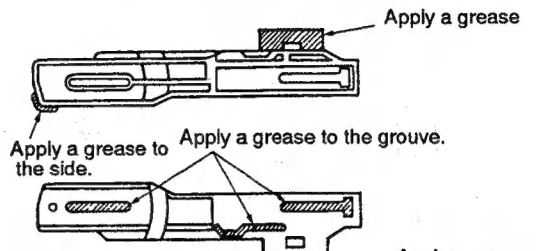

Fig. 12
- ③ Install the cam gear in the position where projection **E** of the cam gear comes to the front of the follow gear installation shaft..
- ① Grease the spring slanting cam. (Fig. 12)